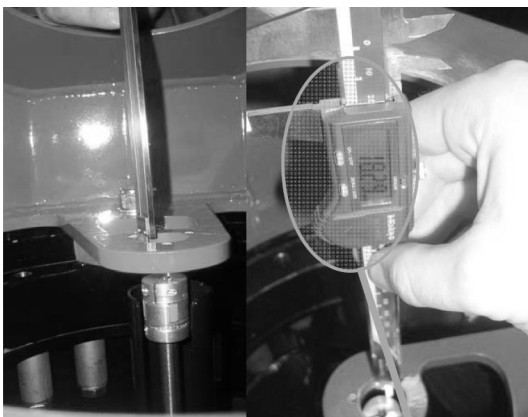

Figure 4-31.
8. Measure with a caliber the distance between the coupling top and the surface of the first boom support where the rotation marker will be mounted. See Figure 4-31.